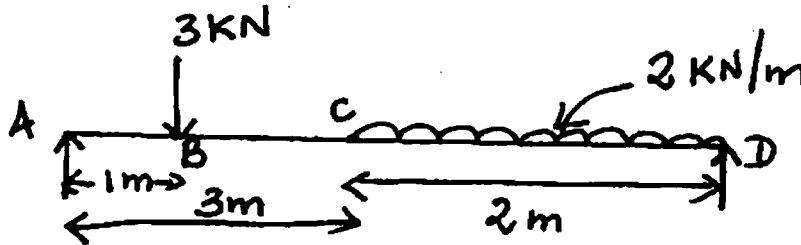

Figure 11(b)
(ii) A simply supported beam is loaded as shown in figure 11(b). Draw the shear force and bending moment diagrams. (10)